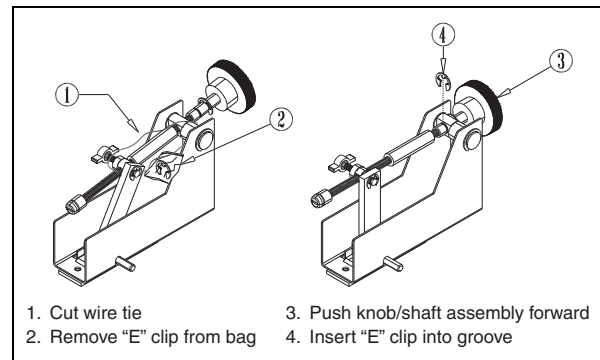

Fig. 4 Flow adjustment connection
4. Valves without inlet side reducers are shipped with the worm gear mechanism disengaged and tied down (to keep the shaft retracted inside the valve body). The setting mechanism must be re-engaged and secured by the installer prior to operation of the valve with airflow (see Fig. 4).
5. Flow adjustment connection: Valves without inlet reducers require field connection of the flow adjustment mechanism (see Fig. 4 and instruction label on valve).